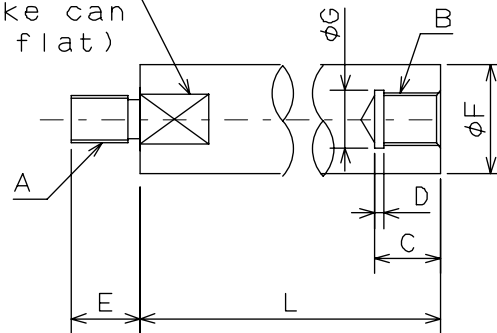

Fig.31
- Keep the dimension e and the dimension B in Fig. 31 for the Draw bar and a material with the tensile strength 380MPa (38kgf/mm²) or more must be used.